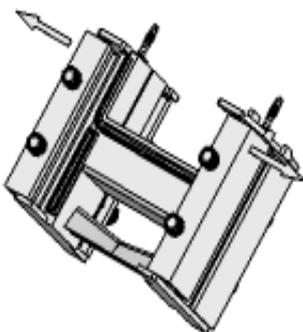

Fig. 1 Pull the sliders of the both sides
- Place the running module horizontally. Loose the screws and the left and right sliders of the grids (fig1) .